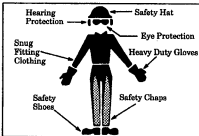

Figure 4
1. Wear protective gear. Figure 4. Always use steel-toed safety footwear with non-slip soles; snug-fitting clothing; heavy-duty, non-slip gloves; safety glasses or similar eye protection such as non-fogging, vented goggles or face screen; an approved safety hard hat; and sound barriers—ear plugs or muffs to protect your hearing. Do not wear loose clothing or jewelry; they can get caught in moving parts. Wear protective hair covering to contain long hair. Regular users should have hearing checked regularly as chain saw noise can damage hearing.